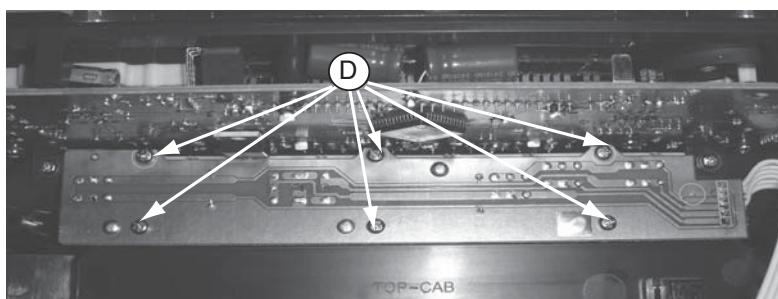

Figure 4
- 1) Loosen 6 screws " D " on the bottom of Key board as shown in figure 4.